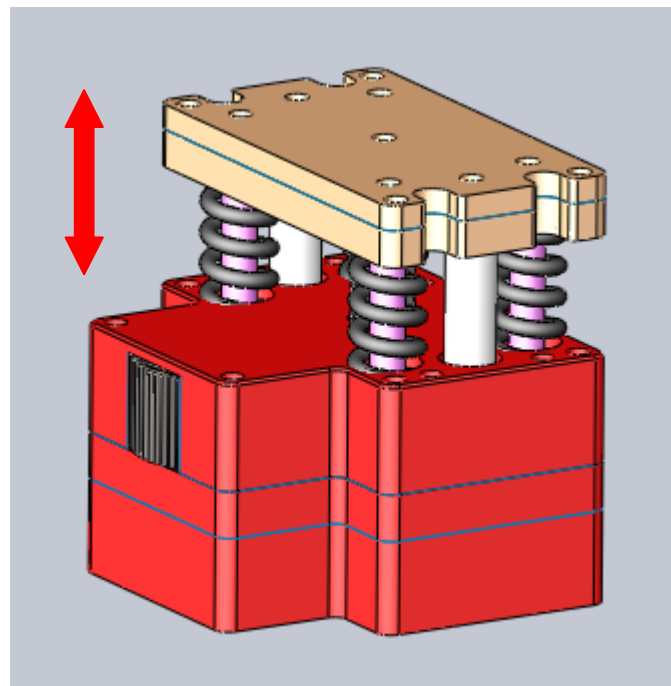

图 1 Fig. 1
1. 模内攻牙机传动体(图 1)
检查传动体，确认驱动装置是否能够上下运动顺畅。螺杆和导柱部位加润滑油 (图 1)
Die tapping machines within the transmission body (Fig. 1)
Check the transmission, confirmed the drive is able to move up and down smoothly. Screw and lubricating pillar parts (Fig. 1)